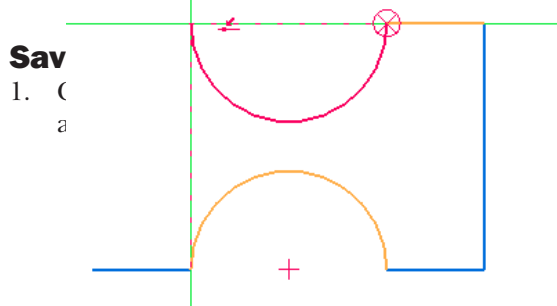

Figure 2-52 Horizontal and vertical dotted lines displayed to define the endpoint of the arc
15. Move the cursor once over the lower arc and then move it toward the left, in line with the upper right horizontal line from where this arc starts. On doing so, a horizontal dotted line originating from the upper right horizontal line is displayed. At the point where the cursor is vertically in line with the start point of the lower arc, a vertical dotted line appears from the start point of the lower arc, as shown in Figure 2-52.